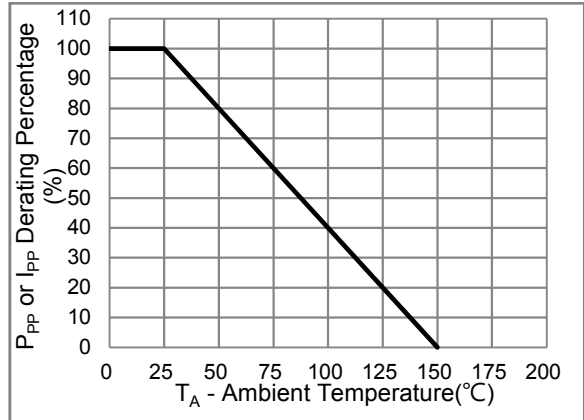
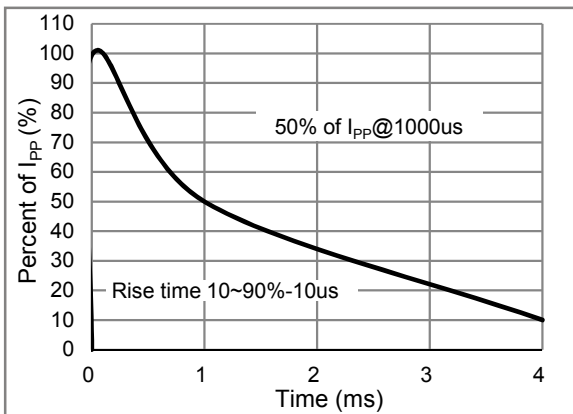

Fig.2 Derating Curve
Fig.3 10/1000us Pulse Waveform
1. Non-repetitive current pulse, per Fig.3 and derated above $T_A = 25^\circ C$ per Fig. 2.